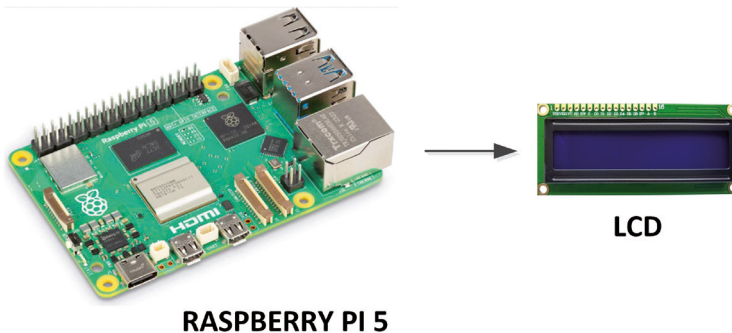

Figure 4.13: Block diagram of the project.
**Block Diagram:** Figure 4.13 shows the block diagram of the project. In this project an I2C type LCD is used.